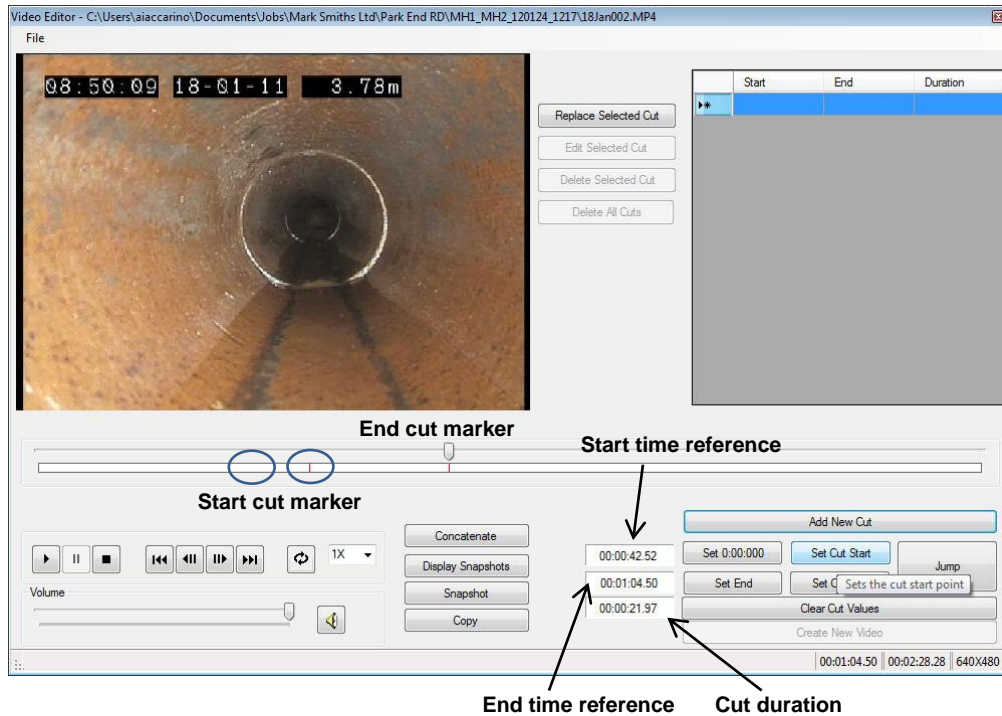

Figure 6.5 Setting up a cut
1. Slide the video progress bar to locate the frame in which to position you start cut marker (see Figure 6.5).